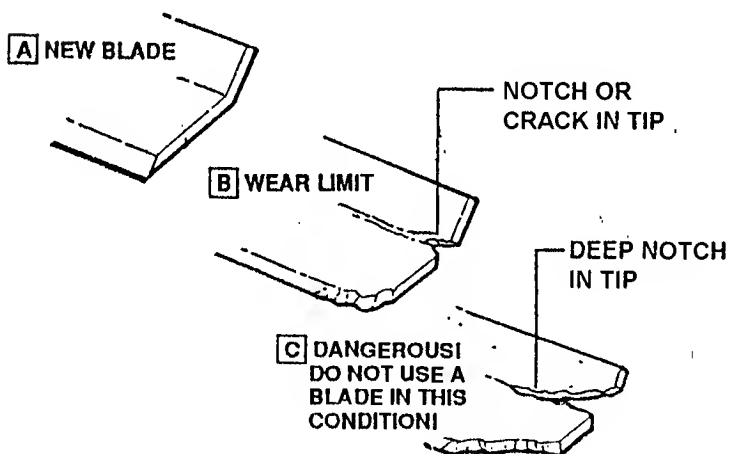

FIGURE 3.5
1. Inspect blade frequently for signs of wear or damage. See Figure 3.5.
2. Refer to Figure 3.5 to determine blade condition. Replace the blade if it is badly chipped, bent, noticeably out of balance or has cracks or notch in either tip as shown in example B above. Replace with new blade Part No. 2-6691.